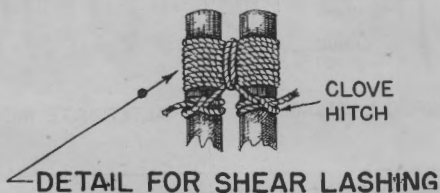

FIGURE 53.—Shears.
c. *Pair of shears* (fig. 53).—To lash for a pair of shears, lay the two spars alongside each other with the butt ends near the place where they are to be erected; rest the points below which the lashing is to be made on a skid. Make a clove hitch around one spar and take the lashing loosely eight or nine turns about the two spars, above the clove hitch, without riding. Make two or more frapping turns between the spars, and finish the lashing off with a clove hitch below the turns on the other spar. Open the butts of the spars and pass a sling over the fork. Hook or lash a block to this sling. Make fast fore and back guys with clove hitches to each spar just above the fork, so that the rear guy pulls on the front leg and the front guy, the rear leg.